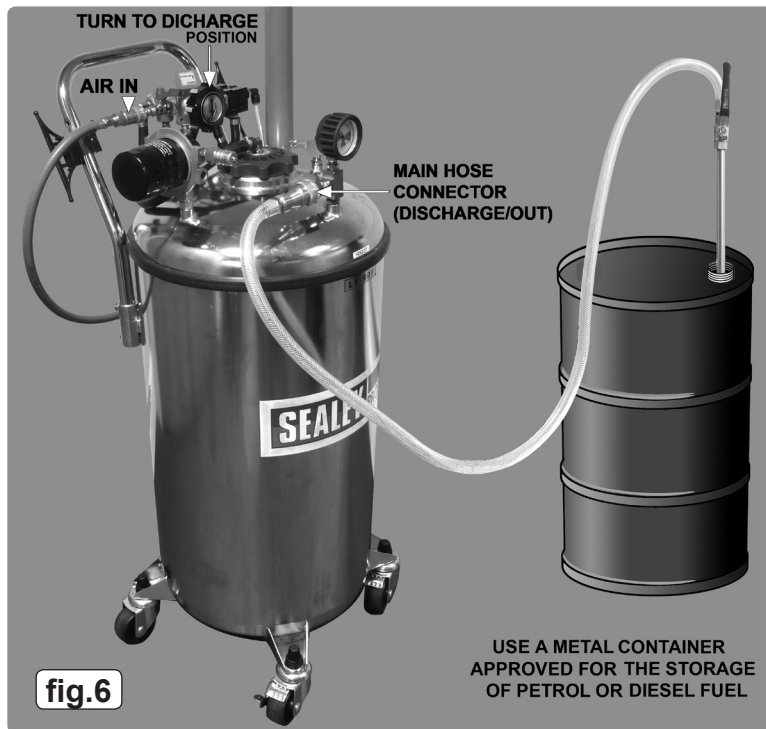

fig.6
4.13.1 Ensure that the female connector on the other end of the main hose is connected to the male inlet connector attached to the pressure gauge. See fig.6 and fig.3-3.